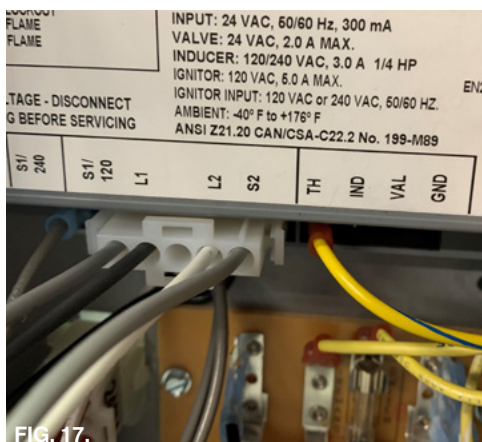

FIG. 17.
13. Connect the Blue/Yellow wire to TH ¼" tab at ICM. (Fig. 17)